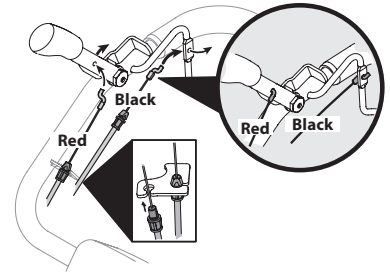

Figure 2
1. Route the two cables along the handle assembly on the right-hand side. See Figure 2.
2. Connect the reverse cable (Red) to the reverse cable control by feeding the z-hook through the hole on the reverse cable control from the inside towards the outside. Refer to Figure 2.
3. Connect the forward drive cable (Black) to the clutch bail by feeding the z-hook through the hole on the clutch bail from the outside towards the inside. See Figure 2.
4. Snap the cable housing clips into the handle assembly cable mount as seen here. The red clip (reverse cable) fits into the top position on the handle assembly, while the black clip (forward/clutch cable) feeds into the lower position on the handle assembly. See Figure 2.